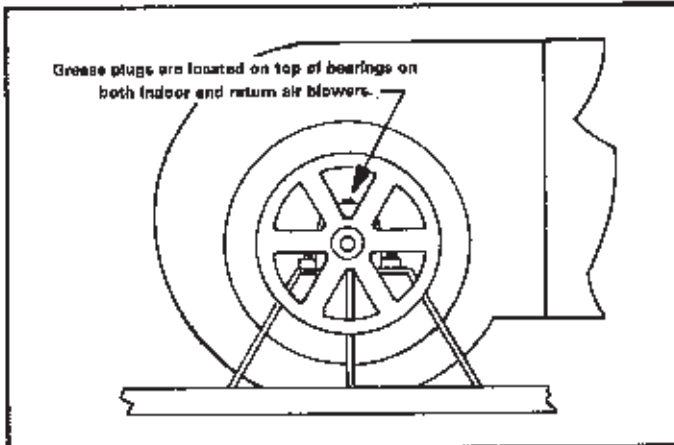

FIGURE 44
*Indoor and Return Air Blower Bearings* - Bearings are prelubricated. For extended bearing life, relubricate at least once every two years with a lithium base grease, such as Alvania 3 (Shell Oil), Chevron-BRB2 (Standard Oil) or Regal AFB2 (Texas Oil). Use hand grease gun for relubrication. Add only enough grease to purge through the bearings so that a bead of grease appears at the seal lip contacts. Refer to Figure 44.